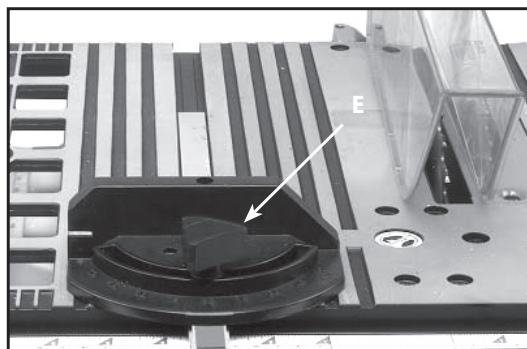

**Fig. 33A**
1. Make sure that the table insert (A) Fig. 33A, is flush with, or slightly below, the surface of the table (B) on the front edge of the insert and flush with, or slightly above the surface of the table on the back edge of the insert.
2. If the table insert is above the surface of the table, tighten the two table insert screws (C) Fig. 33A to lower the insert.